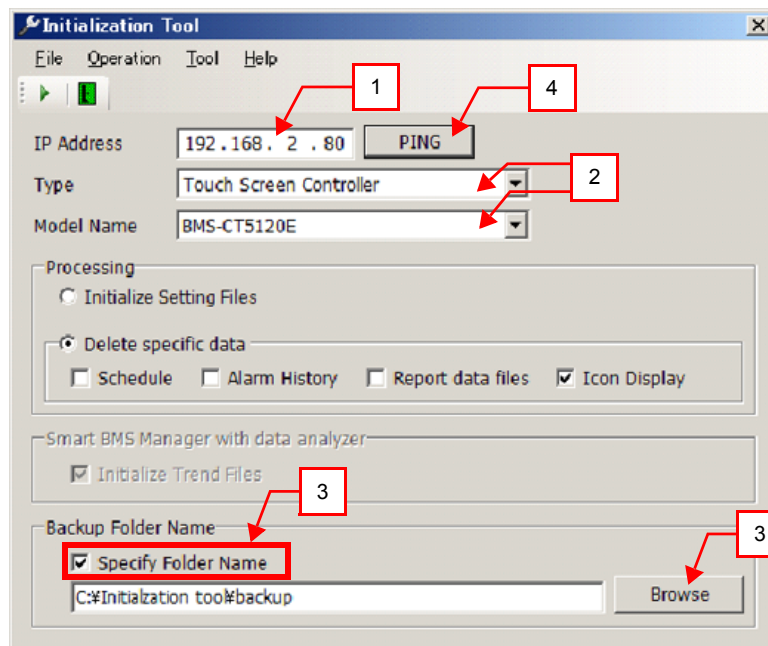

Fig.373 [Initialization Tool] screen
- 3 Specify a backup folder. (Fig.373)**